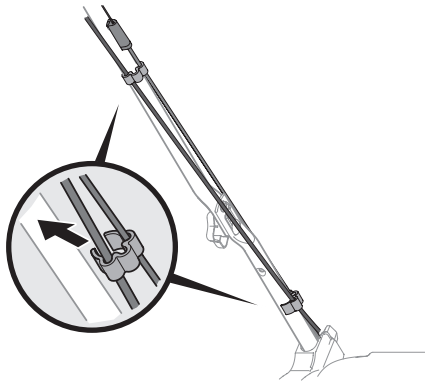

**Figure 2-6**
6. The rope guide is attached to the right side of the upper handle. Loosen the wing knob (a) which secures the rope guide. See Figure 2-6.